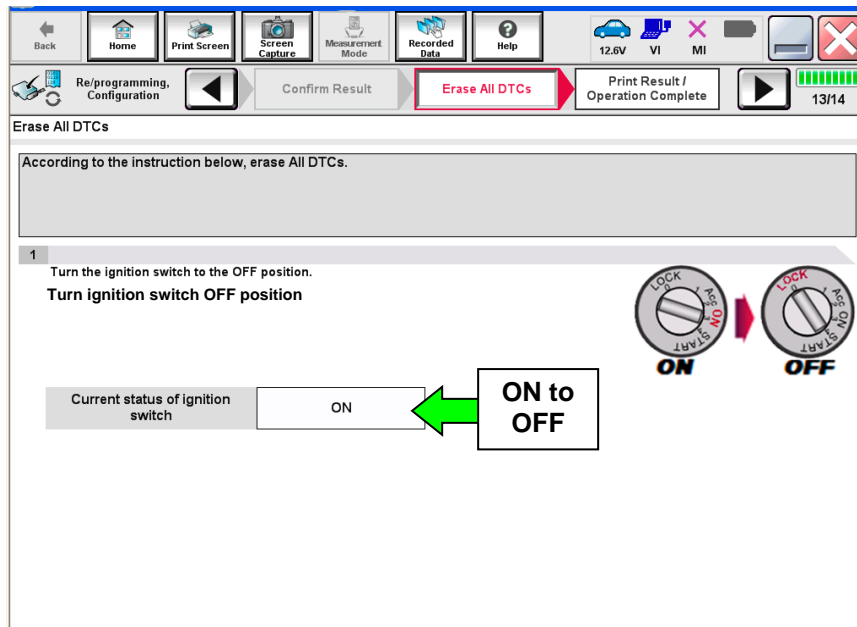

Figure 21
- The screen in Figure 21 will read OFF when the ignition is turned OFF.